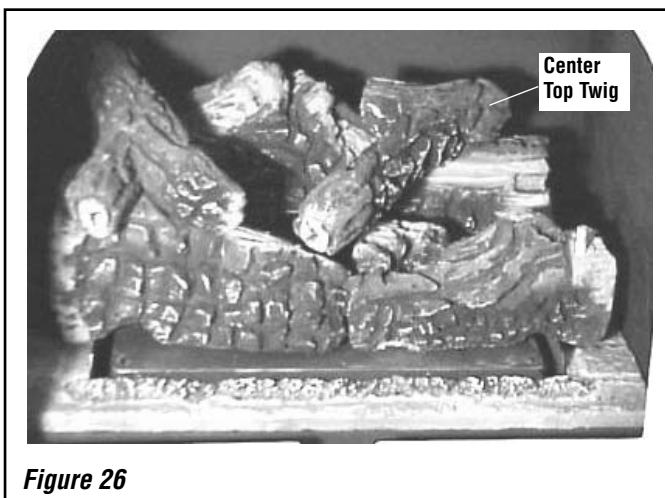

Figure 26
7. Install the center top twig onto the corresponding pin on the rear log and align it with the indentation on front left log as shown in **Figure 26**.